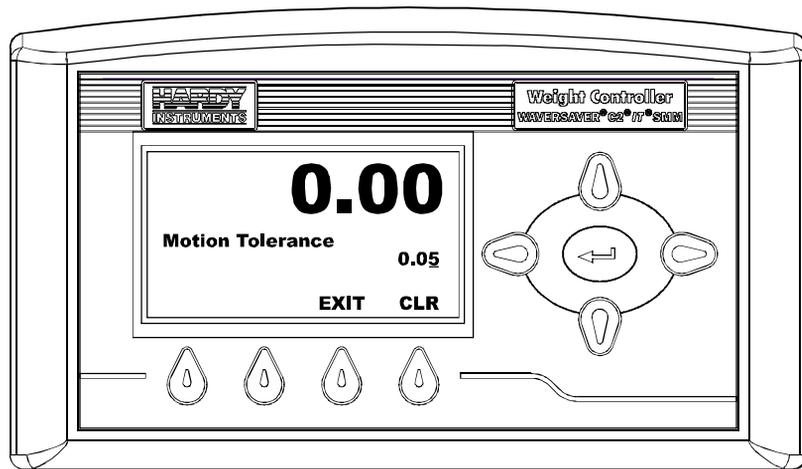

FIG. 76 MOTION TOLERANCE MENU
- Step 2. Press The Enter button. The Motion Tolerance Menu appears. (See Fig. 76)